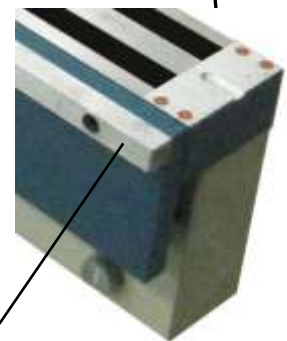

figure 6
1. If you are using the clamp bars with the lifting balls, make sure they are both properly seated in the pockets of the workbench. (fig. 6)